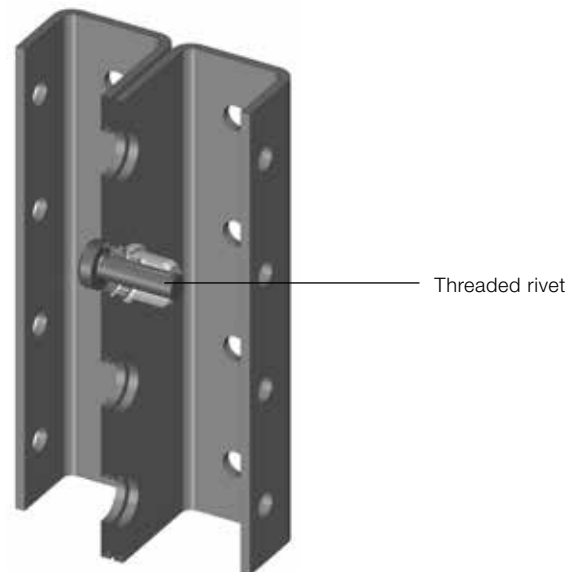

Fig. 21 Frame connection
- The frames must be screwed together (see fig. 21). Threaded rivets are pre-installed for fixing the C-profiles together.